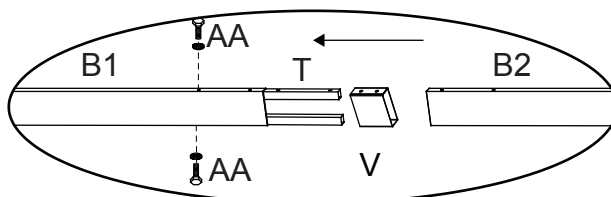

Fig4.2
4.2. Insert one end of the Connector (T) into the Upper Beam (B1) and fix it with bolts (AA), cover the Protective Cover (V), insert the other end of (T) into the Upper Beam (B2) and fix it and the Protective Cover (V) with bolts (AA). See Fig4.2- 4.4.